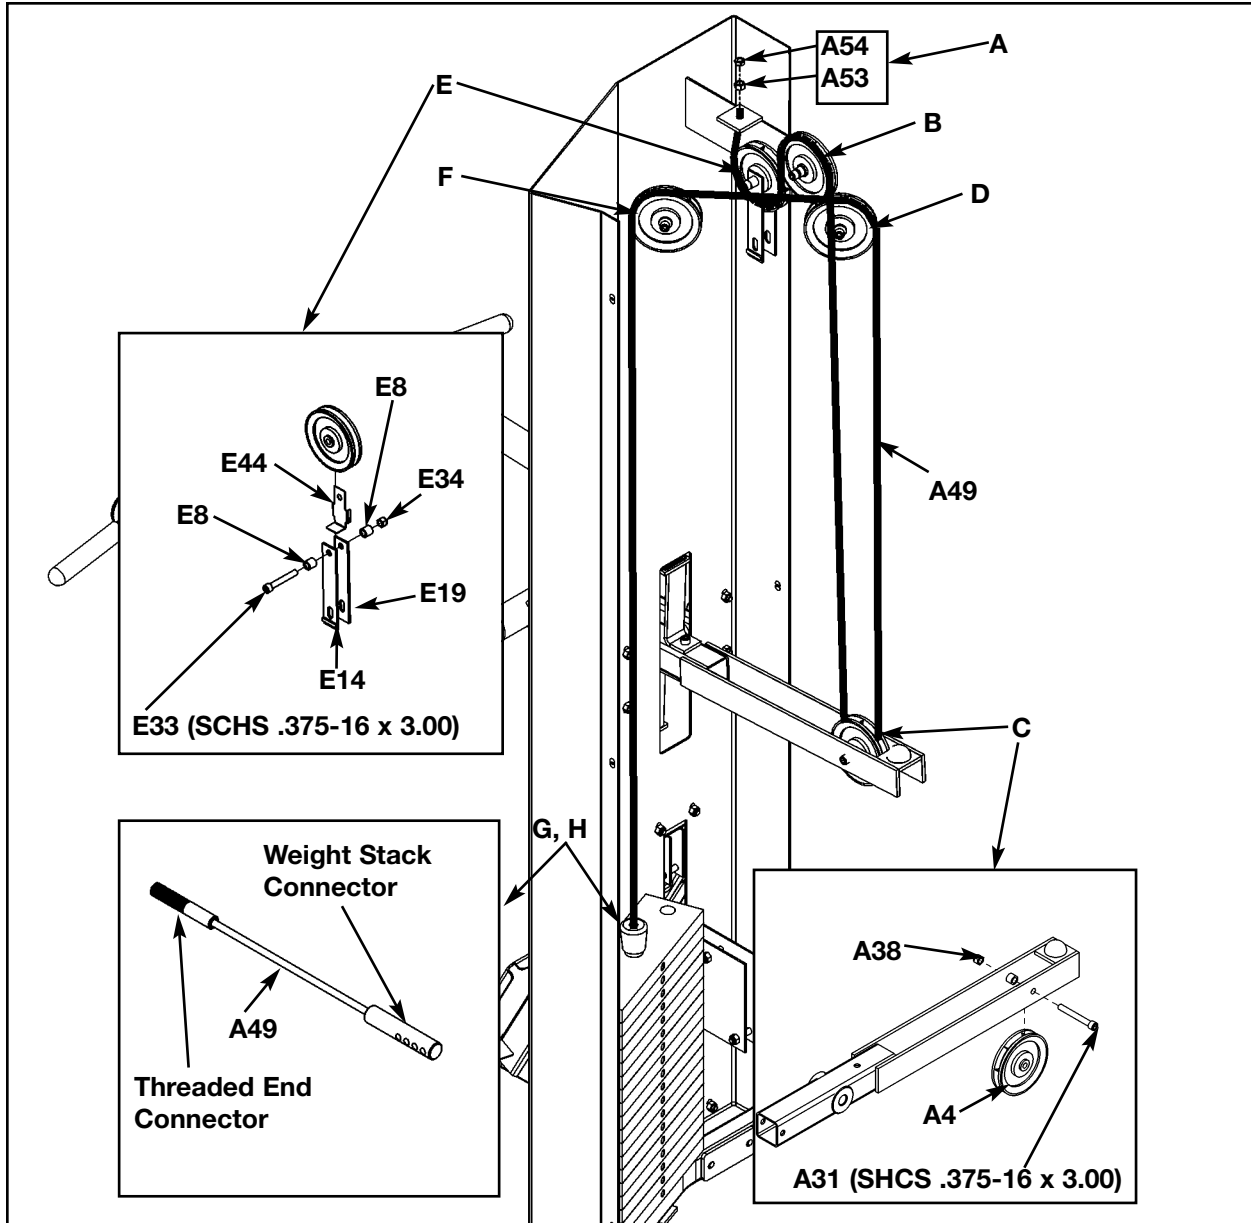

Figure 14
**7. Install weight stack cable** (see steps 7A - 7I and Figure 14). **NOTE:** *The letters in Figure 14 refer to the steps below (order of when the pulleys are installed and how the cable is routed).*
- A.** Install threaded end of cable (#A49) into location shown in Figure 14, letter A. Place hex nut (#A53) then jam nut (#A54) on cable. Install jam nut so that it is flush with cable end and snug hex nut up to jam nut.
- B.** The first pulley is the hanging pulley. Do not install this pulley at this time. Loop cable down for the first pulley. At the same time, install the second pulley (#E1) using one SHCS .375-16 x 2.50 (#E41) and one nylon locknut (#E34) as shown in Figure 14, letter B.
- C.** At the same time route cable (#A49) down and install third pulley (#A4) using one SHCS .375-16 x 3.00 (#E33) and one nylon locknut (#E34) as shown in Figure 14, letter C.
- D.** At the same time route cable (#A49) upward and install pulley (#A1) using one SHCS .375-16 x 1.75 (#E39) and one nylon locknut (#E34) as shown in Figure 14, letter D.
- E.** Install hanging pulley bracket using one SHCS .375-16 x 3.00 (#E33), one pulley (#E1) two spacers (#E8), one pulley tab (#E19), one adjuster (#E14), one cable retainer (#E44) and one nylon locknut (#E34). Be sure the slotted end of the adjuster is facing outward. Verify cable is resting between the pulley (#E1) and the retainer tab. See Figure 14, letter E.
- F.** At the same time, route cable (#A49) and install fifth pulley (#E1) using one SHCS .375-16 x 1.75 (#E39) and one nylon locknut (#E34). See Figure 14, letter F.